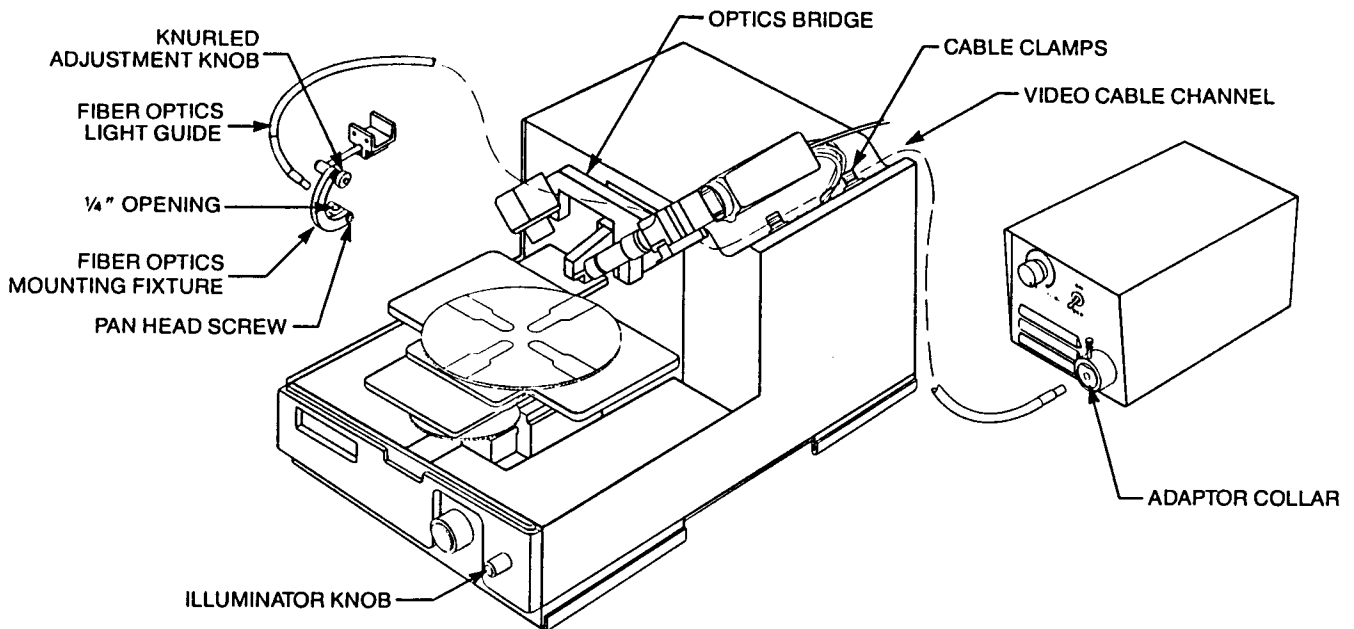

Figure D-1. Front Mount Assembly
3. Attach the fiber optics mounting fixture to the optical bridge with 5/64 hex driver and two #8-32 set screws (See Figure D-1). The fiber optics mounting fixture should be positioned on the optics bridge with the stylus centered in the 1/4" diameter opening of the fiber light clamp when viewed from the front of the Scan Head.